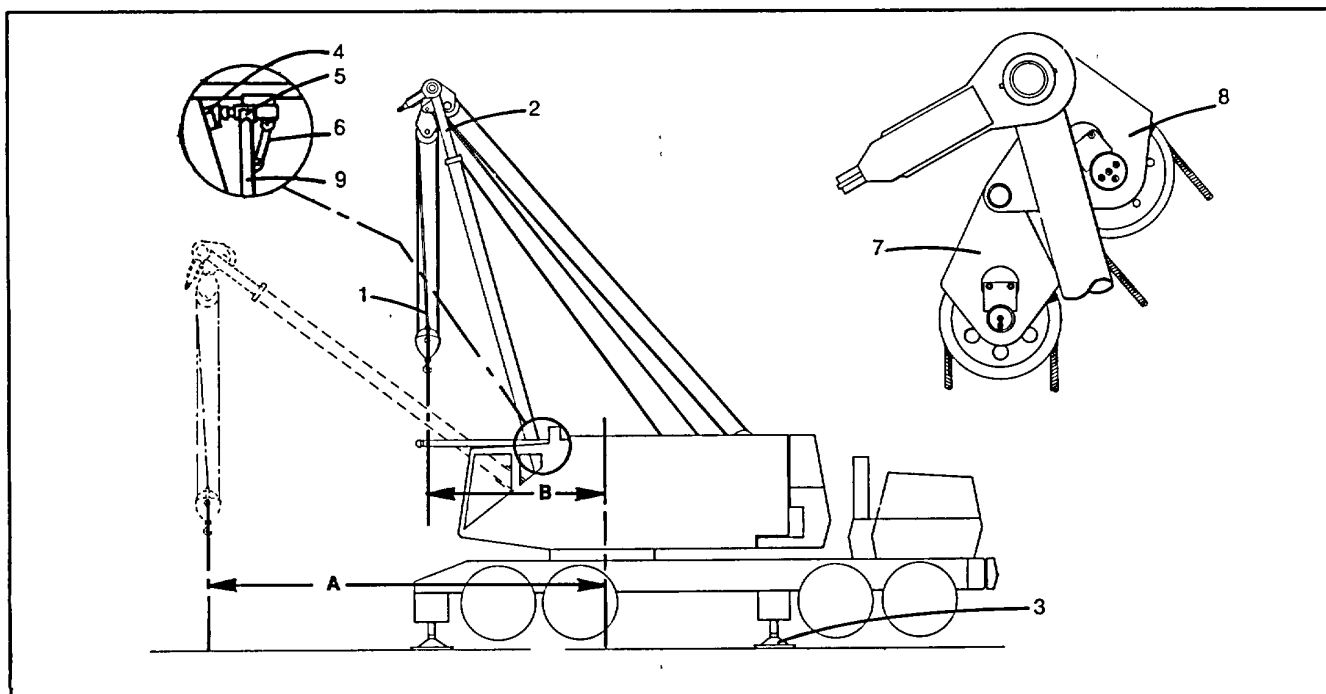
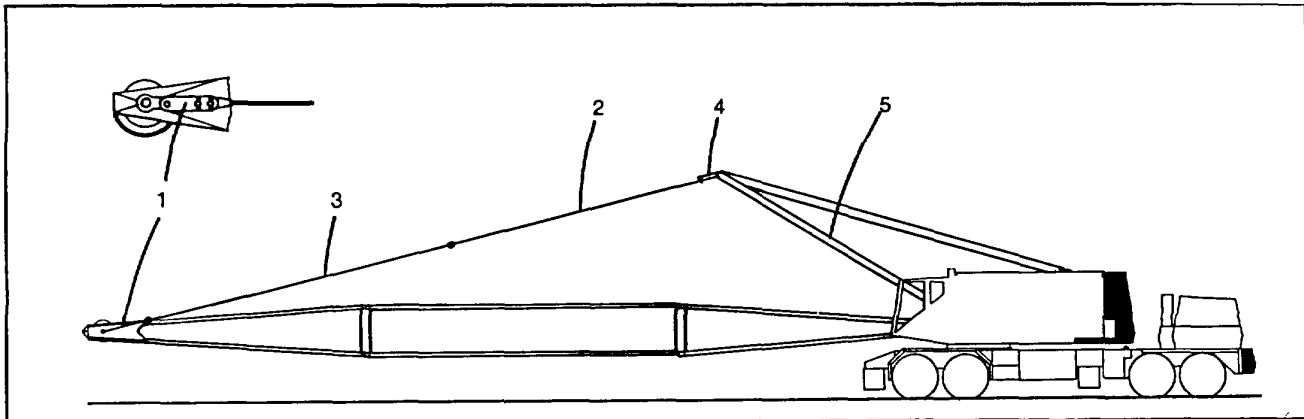

Fig. 5-4 Live Mast Used As A Short Boom
Fig. 5-7 Main Pendants and Links (70 Ft. - 21.3m Boom Shown)
- The boom backstops (Fig. 5-4 & 5-6) must be in their supports. The anchor links (6 in Fig. 5-4) must be connected between the backstop standoffs and the boom backstops.
5-11 Boom Assembly Step 1: Reeve live mast as a short boom (See Fig. 5-4). Use the short boom to install the boom lower section on the machine.
Reposition the live mast backstop target (Fig. 5-3) to the vertical position. Unpin the backstop tie down links (Fig. 5-4). Install the backstop struts (Fig. 5-7) between the boom lower section and the backstop tubes.